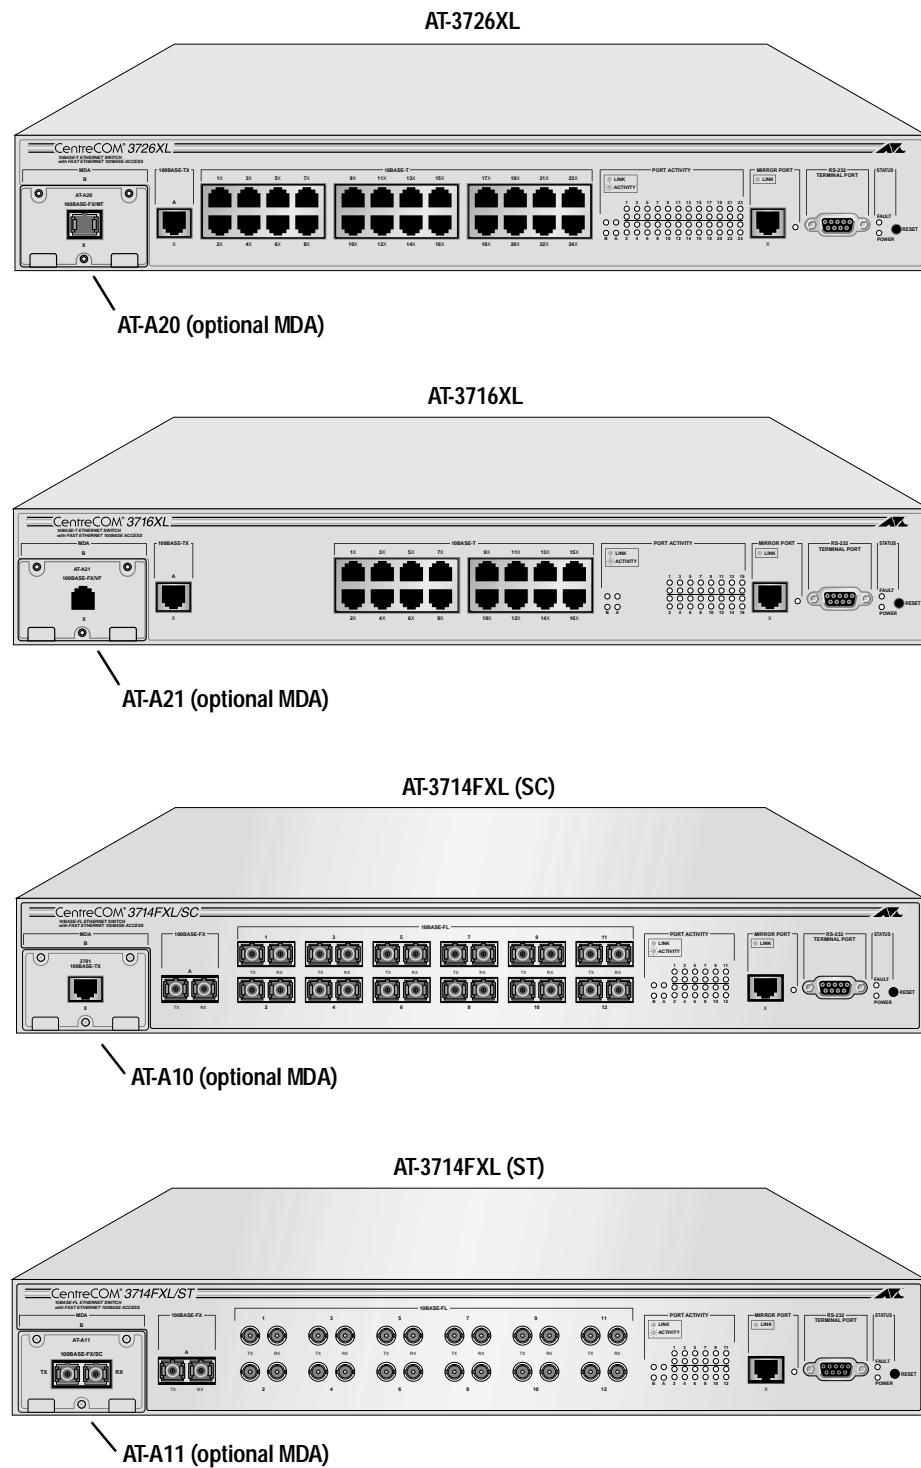

Figure 1-1 AT-3726XL, AT-3716XL, and AT-3714FXL (SC/ST) Switches
All switches include a 100Base slot that can be configured with an optional Media Dependent Adapter (MDA) for 10/100Base-TX, 100Base-FX (SC), 100Base-FX (MT-RJ) or 100Base-FX (VF-45). Figure 1-1 shows the switches with the optional AT-A10, AT-A11, AT-A20 and AT-A21 MDAs.